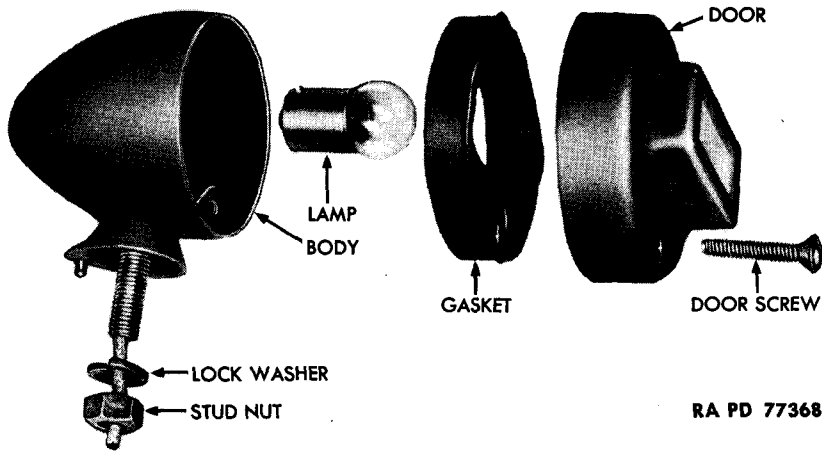

Figure 100 - Blackout Marker Light Disassembled
(1) DESCRIPTION (fig. 100). Two blackout marker lights are mounted, one on each side, on brush guard at front of vehicle. Lens in door of light is covered except for two small, translucent, triangular portions. Door is shaped so that triangles are visible only from a straight-ahead position; thus no beam is cast, and light serves only as a marker. Light contains a conventional single-contact socket.
(2) TABULATED DATA.